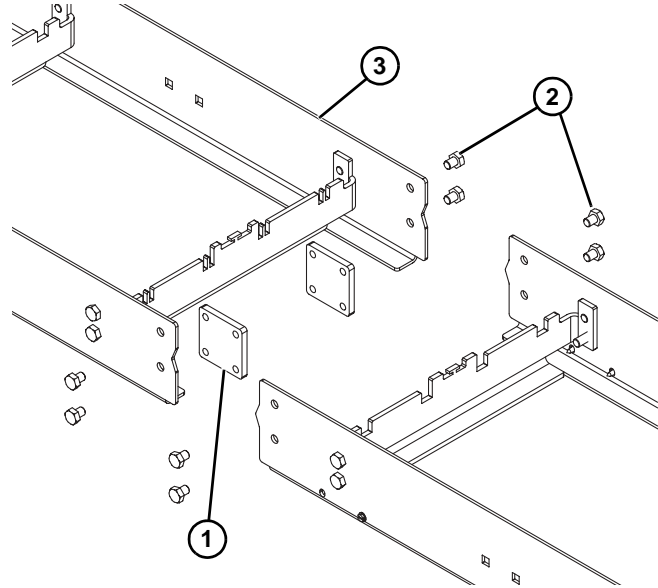

Figure 4
Typical connecting components (Figure 4).
2. Join both conveyor sections and install connecting plates (Figure 4, item 1) with four screws (Figure 4, item 2) on both sides. Tighten to 14-16 ft-lbs (19-22 Nm).